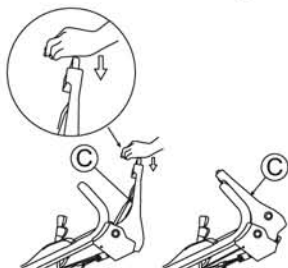

Fig. 18
3. Push Blade lever (C) forward while pressing its yellow button. Then, the blade starts rotating. (See Fig. 18)